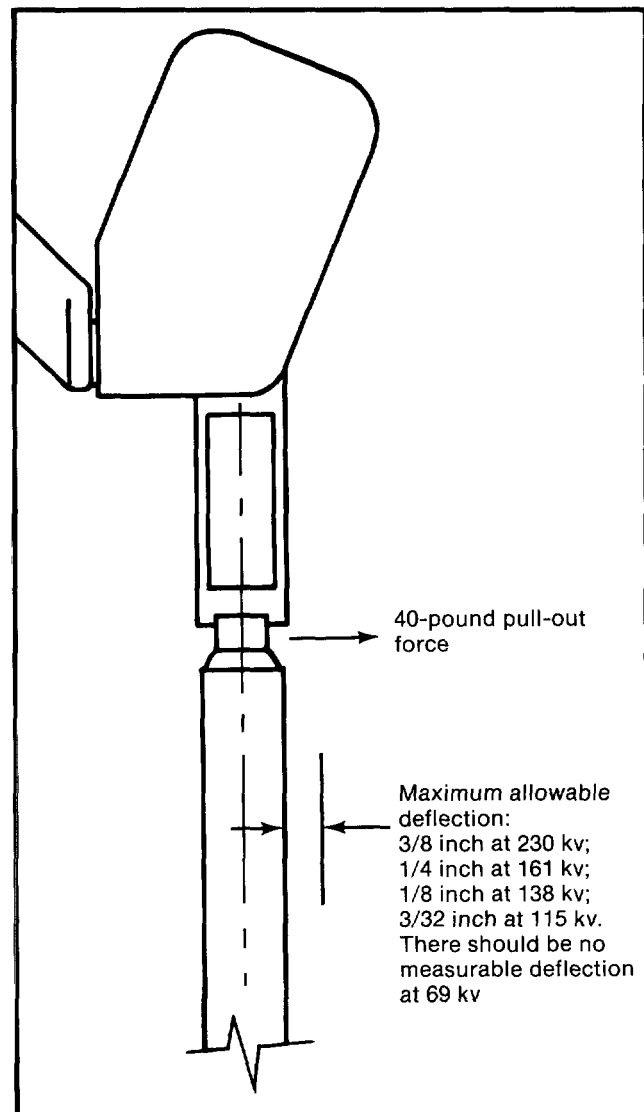

Figure 6. Blade closure verification.
- (b) Verify that the blade-contact assembly enters the jaw contact on center. Further, check for proper blade closure by manually pulling the blade assembly away from its closed position as illustrated in Figure 6. With a pull-out force of approximately 40 pounds applied at the position shown, blade deflection should be no more than that indicated. If adjustment is required, loosen the clamp bolts on the section of the blade clamp which fastens the clamp to the interphase shaft. Then slide the blade left or right and/or rotate the blade, as necessary, to attain these conditions. Tighten the blade-clamp bolts equally so that the clamp pulls down evenly. Then tighten the piercing set screw, piercing the interphase shaft, and continue turning until a firm resistance is felt.